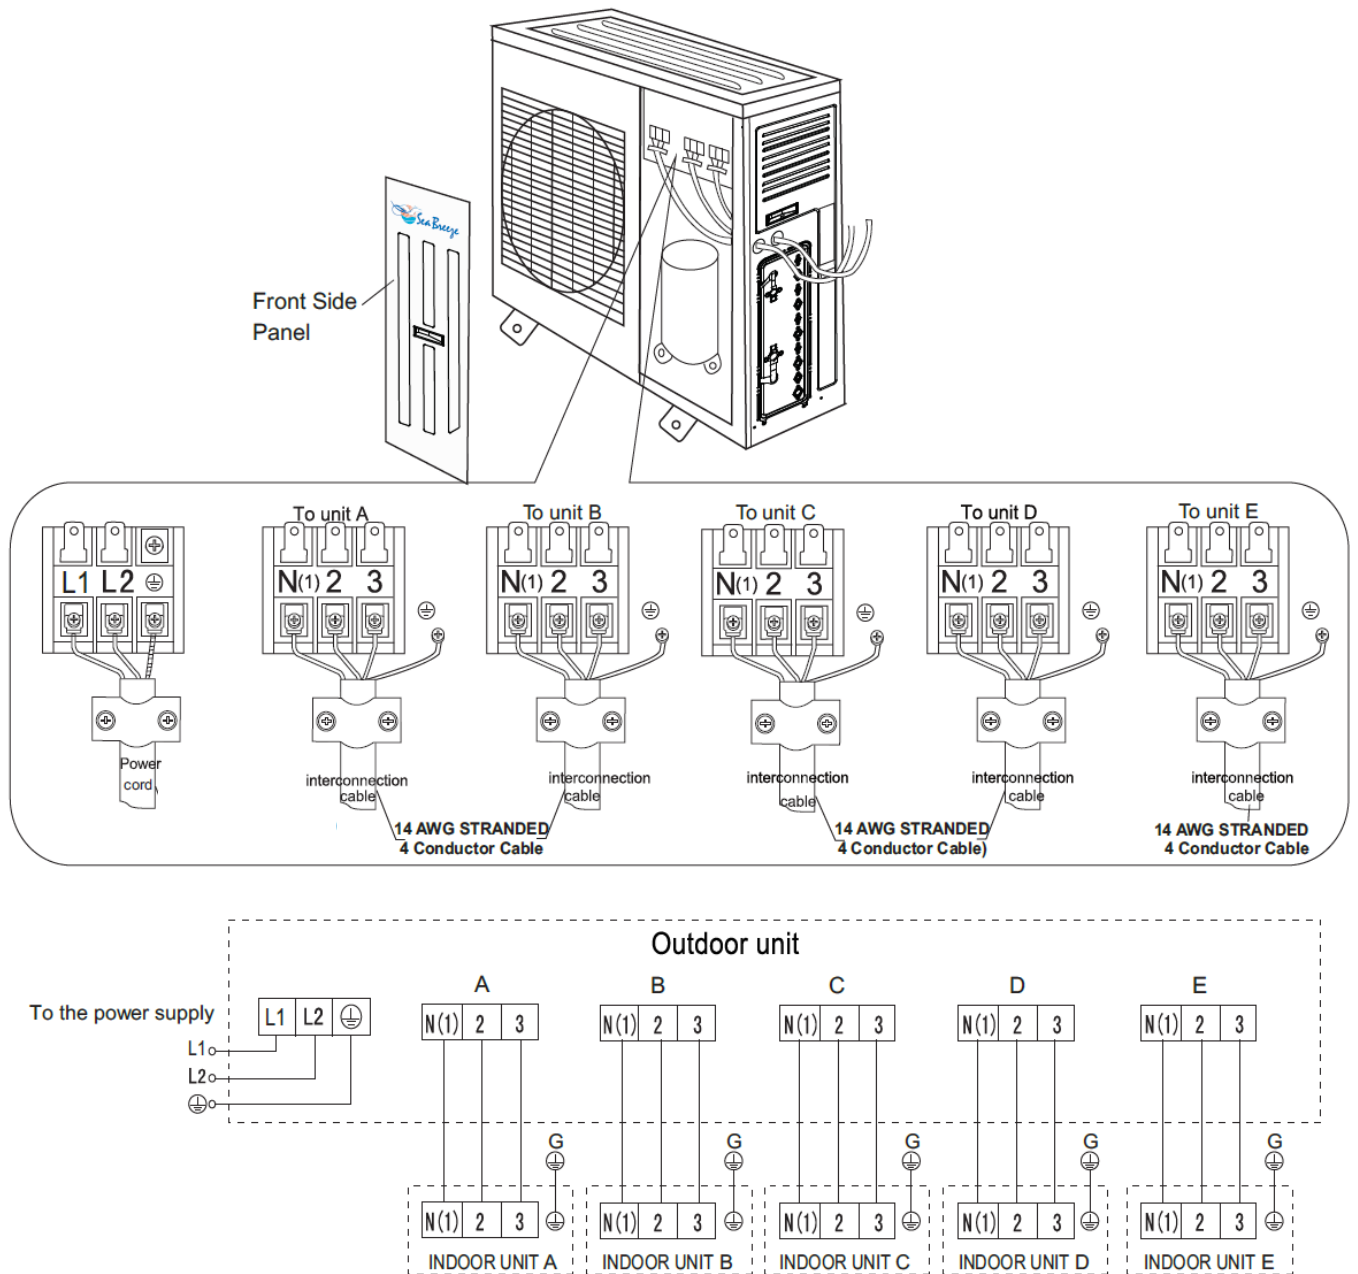

Figure 16
3. Connect the wires to the terminals. (See wiring diagram Figure 16).